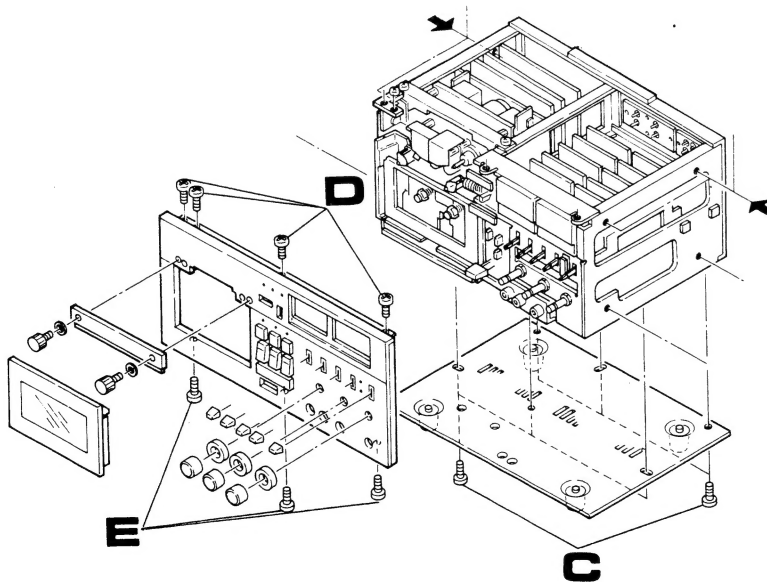

Fig. 4-2 Front Panel Removal
2. Remove Front panel and Control knobs. See Fig. 4-2.
5. Remove 2 wires (C) (1 red, 1 white) going to pin cord jacks on PLAYBACK AMPL. P.C. Board. Remove connector (D) to REC/ERASE AMPL.
6. Remove counter belt (E).
7. Remove Transport Ass'y. Remove 2 screws (A) in top and 2 screws (B) in bottom of transport.